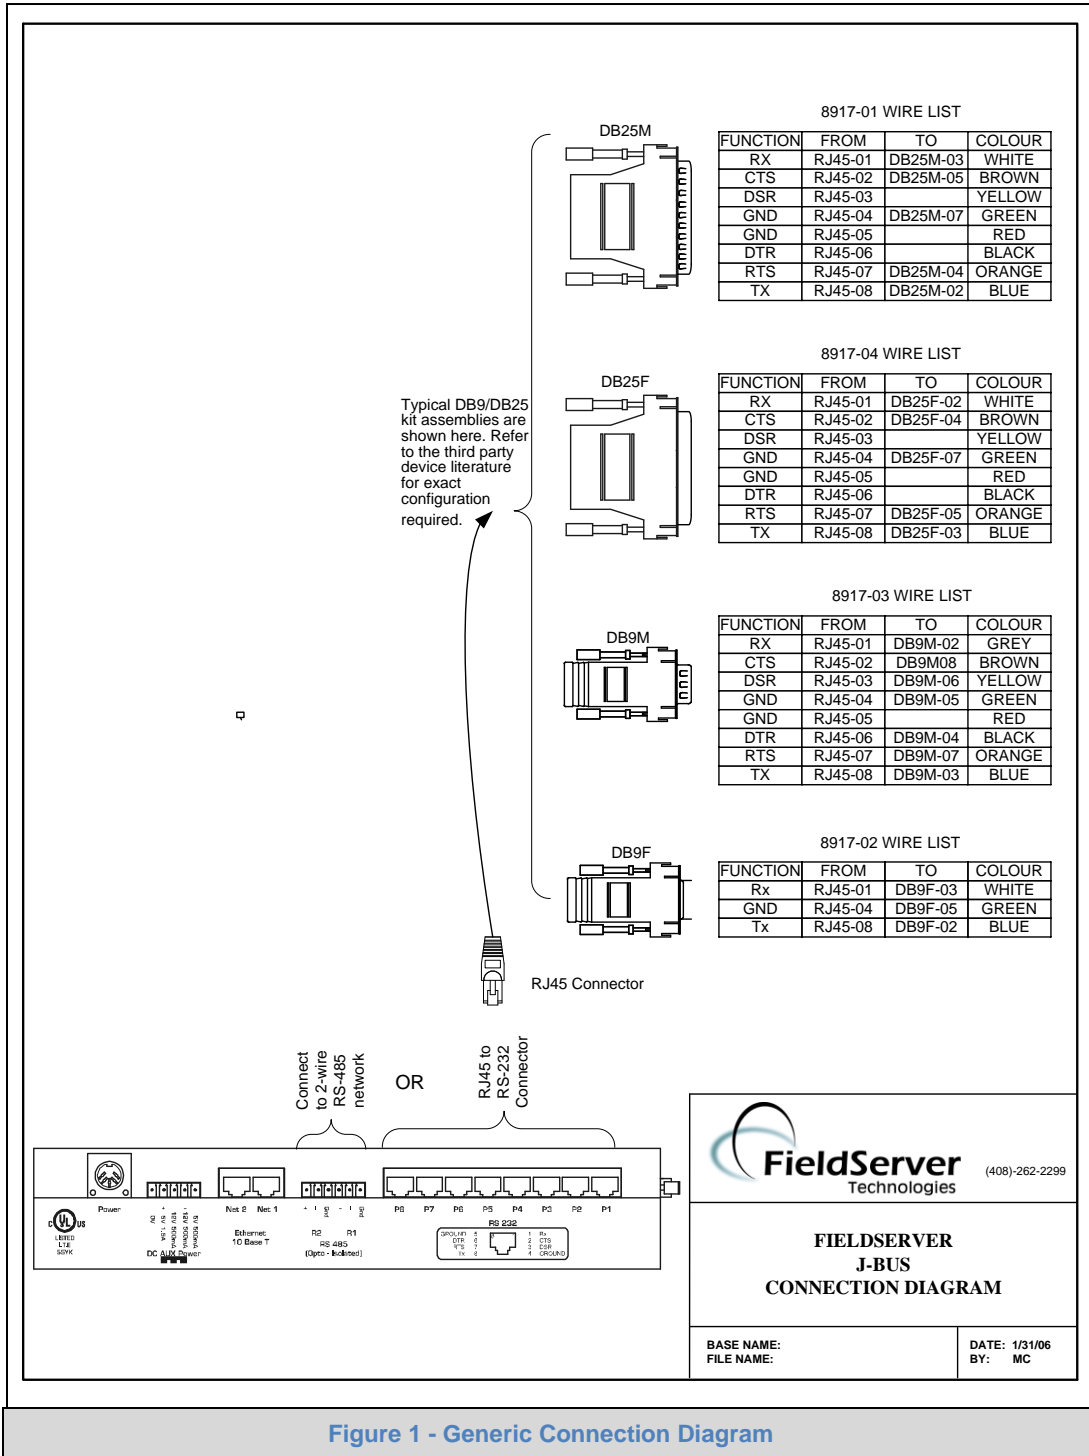

Figure 1 - Generic Connection Diagram
- Figure 1 - Generic Connection Diagram 5